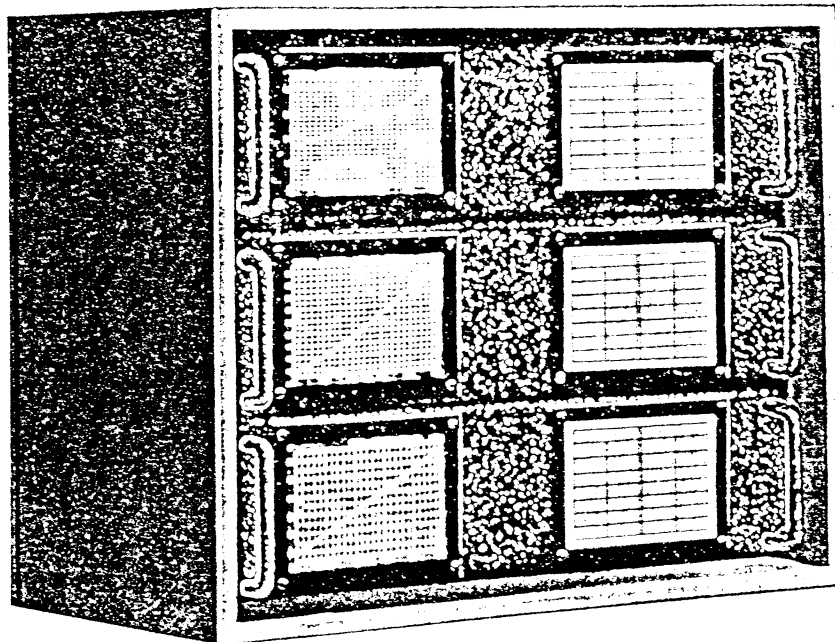

Figure 19. Coil box for three coil sets.
f. The two coil boxes (figs. 19 and 20) are made of wood, and are provided with inside cleats to form separate racks for the individual coil sets. The smaller box has space for three coil sets, the larger one accommodates five.²